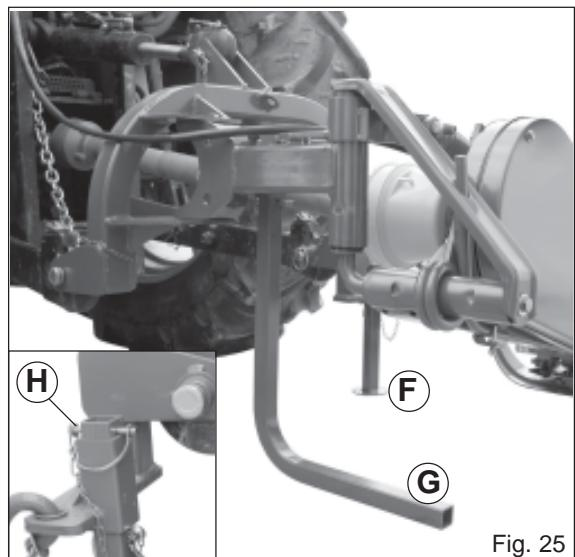

Fig. 25
2. Put parking stand (F and G, Fig. 25) in the DOWN position: install spring locking pin in order to secure parking stand (H , Fig. 25).